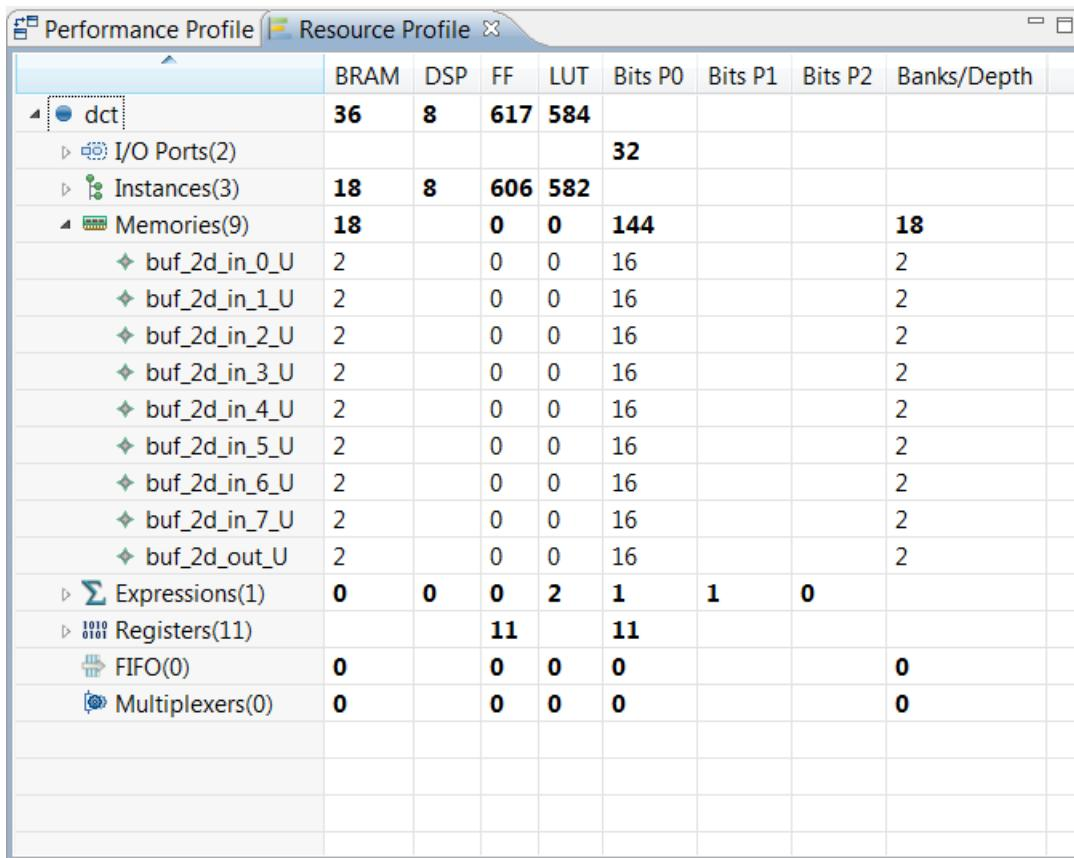

Figure 138 DCT Resource Profile
12. Expand the memories to see the view in Figure 138.